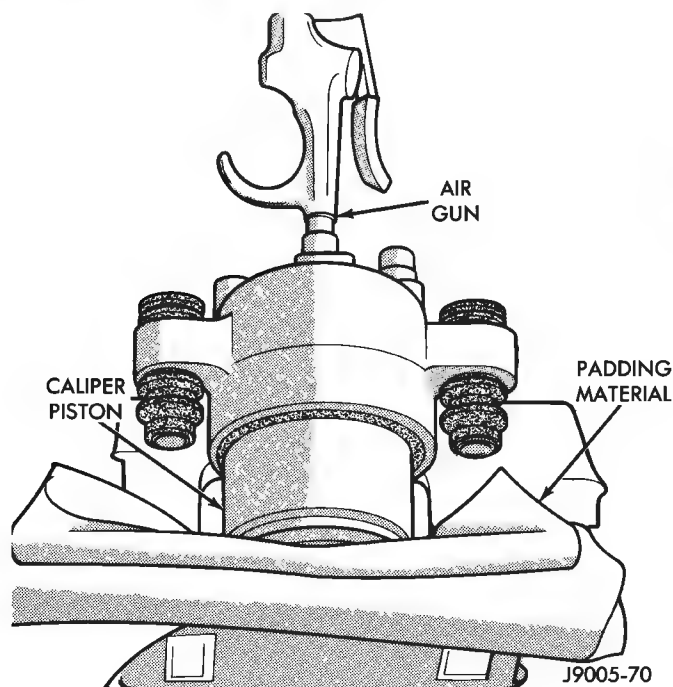

Fig. 16 Removing Caliper Piston
(3) Remove caliper piston with **short bursts** of low pressure compressed air. Direct air through fluid inlet port and ease piston out of bore (Fig. 16).